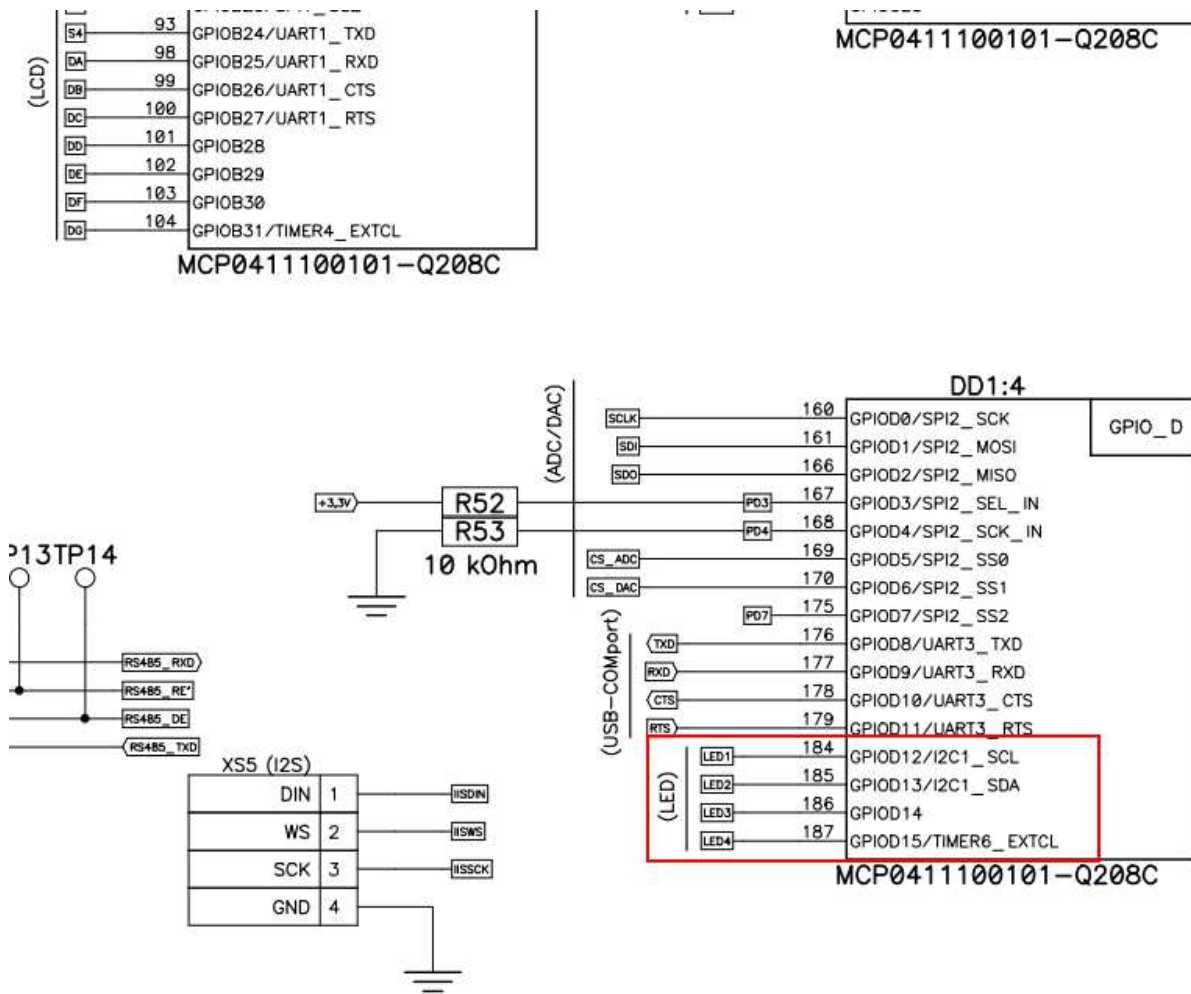

Fig 4. Abstract from technical documentation for LDM-MCp0411100101-Q208 Evolution (see p. 36 DS-QuickStart-MCp0411100101-Q208 Evolution.eng.pdf)
- in line #7 I/O settings for port D that is correspond to LEDs 1, 2 and 3 (in User Manual you can find a processor I/O list). In Fig. 4 you can find that LEDs on port D are connected to pins 12,13,14,15 so it si corresponded to hexadecimal. Combination uint32_t - typedef unsigned int uint32_t from library HDL51001_ccf.h;
- in line #7 I/O that correspond to UART3 (in this board UART3 is connected to FTDI chip, that is used for USB-COM see Fig.4) is configured as alternative function;